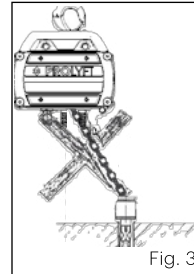

Fig. 3
- **Do not** allow any lateral load on either housing or bottom block. (See Fig. 3)